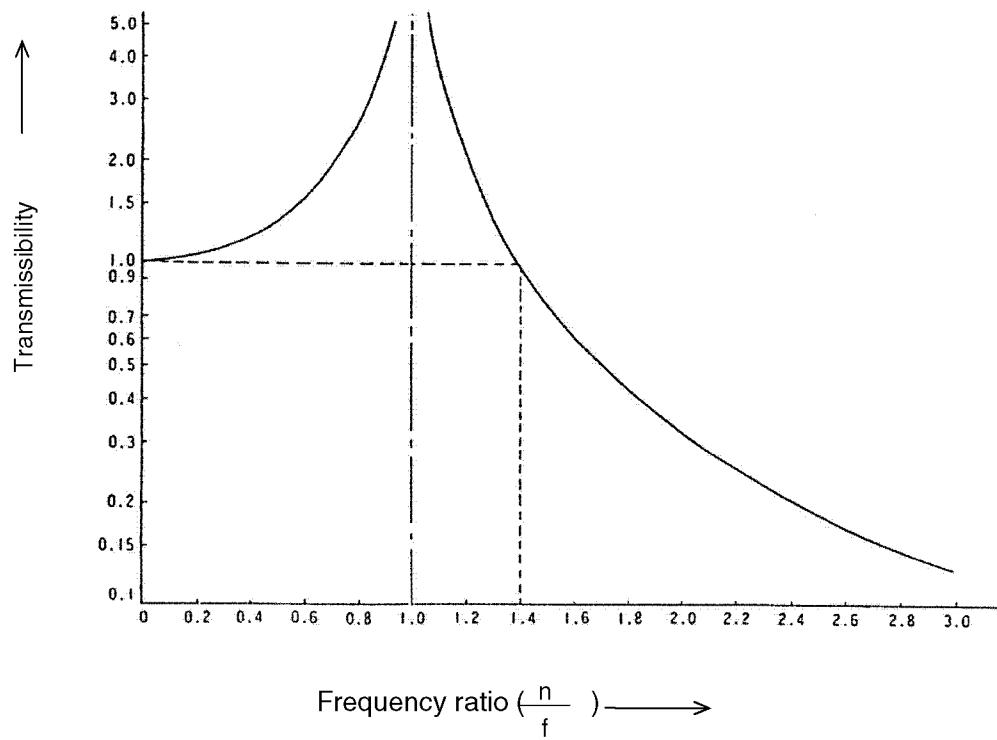

Figure 17-3
The curves of vibration transmissibility in (**Figure 17-3**) are graphic representations of Equation (1).